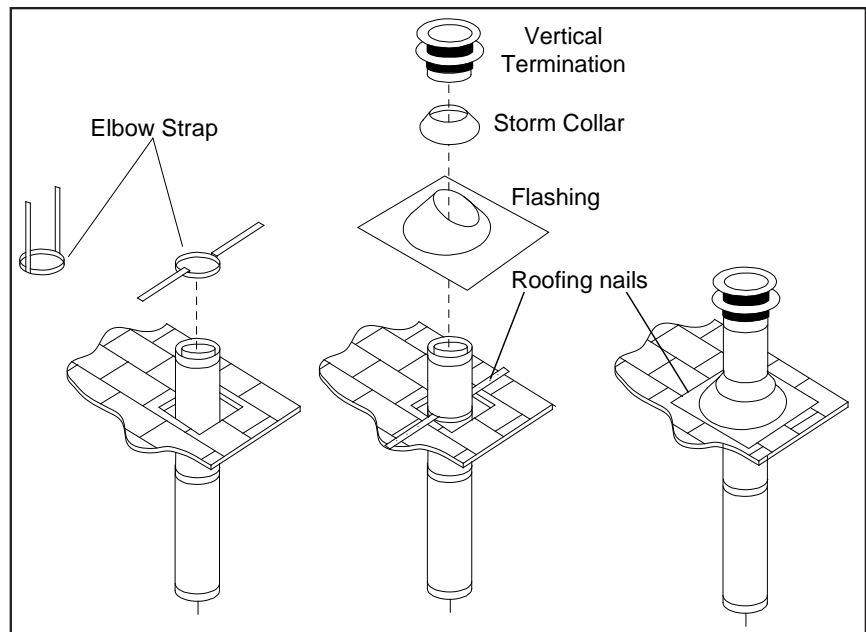

Figure 30: Vertical Vent Termination Installation.
6. Once the pipe sections have been joined, and run up through the hole in the roof, slip an elbow strap over the exposed sections, bend the support straps outwards, and push the elbow strap down to the roof level, as shown in Figure 30. Tighten the clamp around the pipe section. Use a level to make sure the pipe is truly vertical. With roofing nails, secure the support straps to the roof. Seal the nails holes with non-hardening mastic. Trim the excess length of
7. Slip the flashing over the pipe section protruding through the roof. Secure the base of the flashing to the roof with roofing nails. Use a non-hardening sealant between the uphill edge of the flashing and the roof. Insure the roofing material overlaps the top edge of the flashing as shown in Figure 30. Verify that you have at least the minimum clearance to combustibles at the roof line.
9. Slip the storm collar over the pipe, and push it down to the top of the roof flashing as shown in Figure 30. Use the non-hardening sealant around the joint between the pipe and the storm collar.